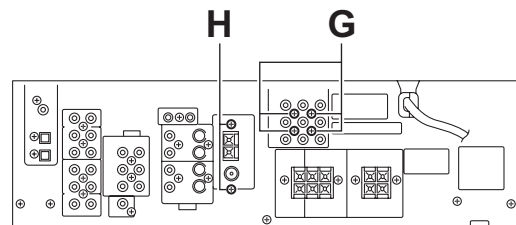

Fig.6
- (2) From the back side of the main body, remove the four screws **G** attaching the component board. (See Fig.6)
- (4) From the back side of the main body, remove the two screws **H** attaching the tuner unit. (See Fig.6)